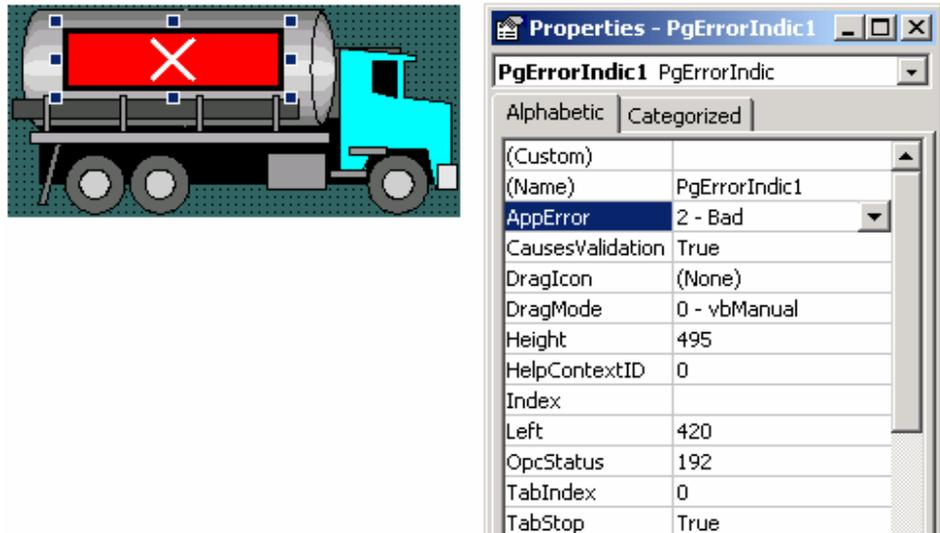

Figure 108. Properties of the PgErrorIndicator
1. In the Toolbox of the **Graphic Primitives** you will reach the PgErrorIndicator. See Figure 108. This control is normally **invisible** when it is added to a Graphical Element.